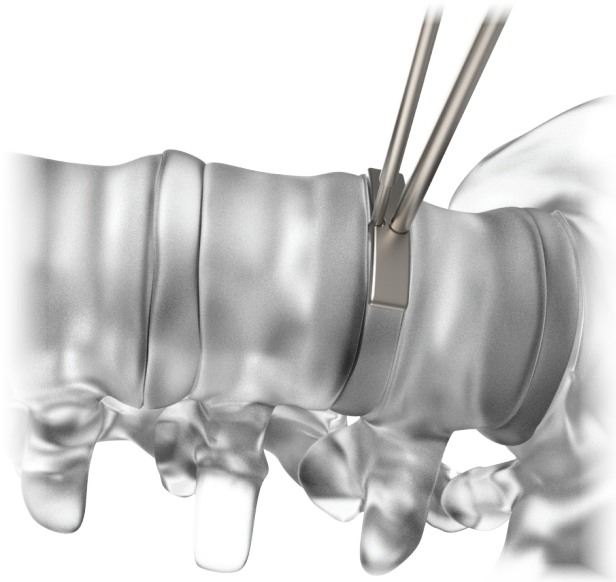

Figure 2
- Position the annulotomy template (32, 36, or 40 mm wide) on the disc space and insert the centering pin in the midline (Figure 2).